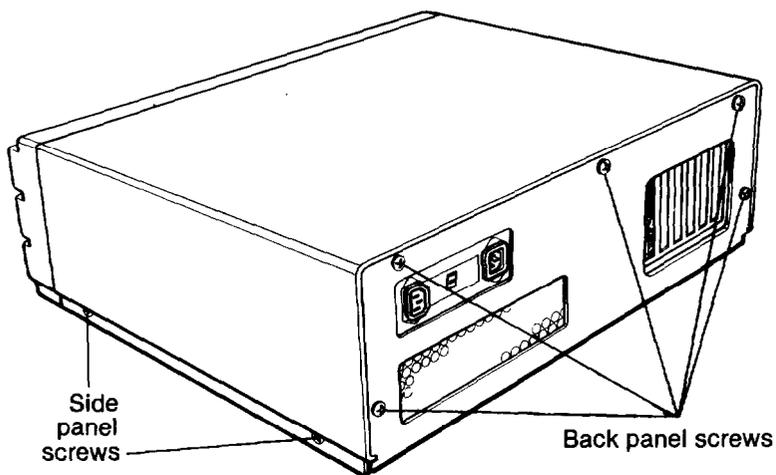

Figure 4-1. Back and side *panel screws*
2. As shown in Figure 4-1, the top cover is secured by five screws on the back panel and four screws on the side panels (two on each side). Remove the screws and put them all safely to one side. They are small so be careful when you take them out.